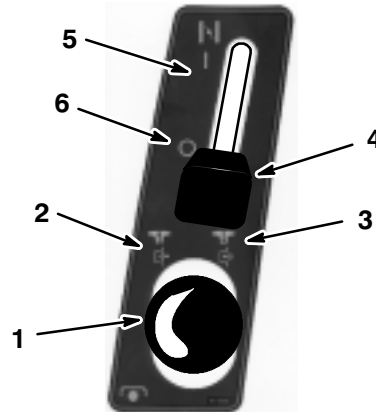
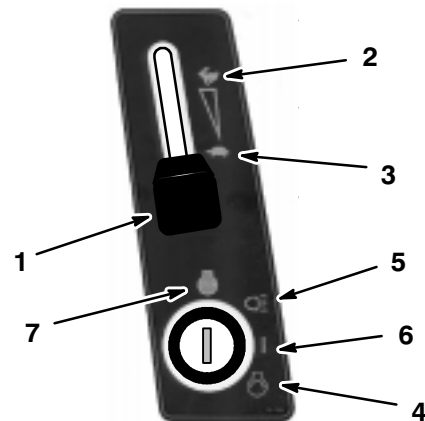

Figure 9
Figure 10
4. Ensure the PTO is disengaged (Fig. 9).
5. When starting a cold engine move the choke lever to the “ON” position (Fig. 9).
6. Move the throttle lever to the “SLOW” position (Fig. 10)
7. Turn the ignition key clockwise and hold it in the “START” position (Fig. 10). When the engine starts, release the key.
8. After the engine starts, slowly move the choke lever to OFF (Fig. 9) and the throttle lever to FAST (Fig. 10).
1. Move the throttle lever to SLOW (Fig. 10).
2. Turn the ignition key to OFF (Fig. 10).